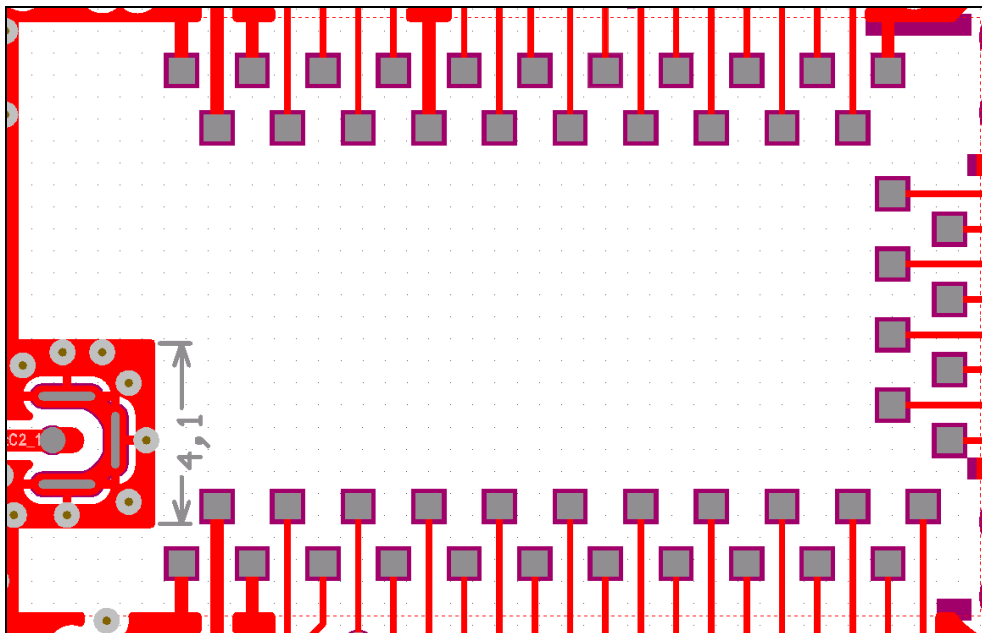

Figure 30: Exemplary base board footprint for deRFsam3-23M10-2 (top view)
The exemplary base board footprint for deRFsam3 radio modules is shown in **Figure 30**. The top layer (red) is visible, the mid and bottom layer(s) are hidden. The rectangular signal pad copper area (red, not visible) and the paste dimension (grey) have the same size of 0.6 x 0.6 mm. The solder stop clearance (purple) has a value of 0.1 mm.
The RF ground pads are connected to each other and to the board ground to ensure a proper ground area. The RF ground area in **Figure 30** has a vertical dimension of 4.1 mm. The ground vias are not plugged. In this area are no other radio module signals. An unintentional short-circuit is therefore accepted. Do not place copper on any other area among the entire module. Solder stop could be used everywhere.
- Route traces straight away from module (see **Figure 30**)